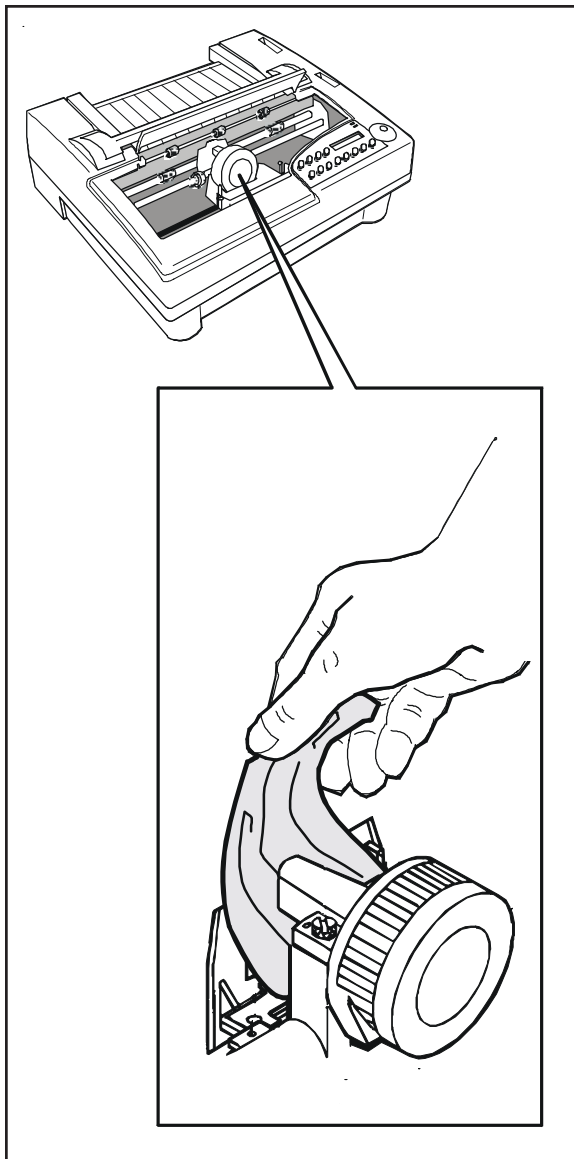

Figure 5-5. Cleaning the Printhead Wires
3. Using a soft tissue moistened with pure silicone lubricant, gently wipe the tip of the printhead to remove any ink build-up, as shown in figure 5-5.